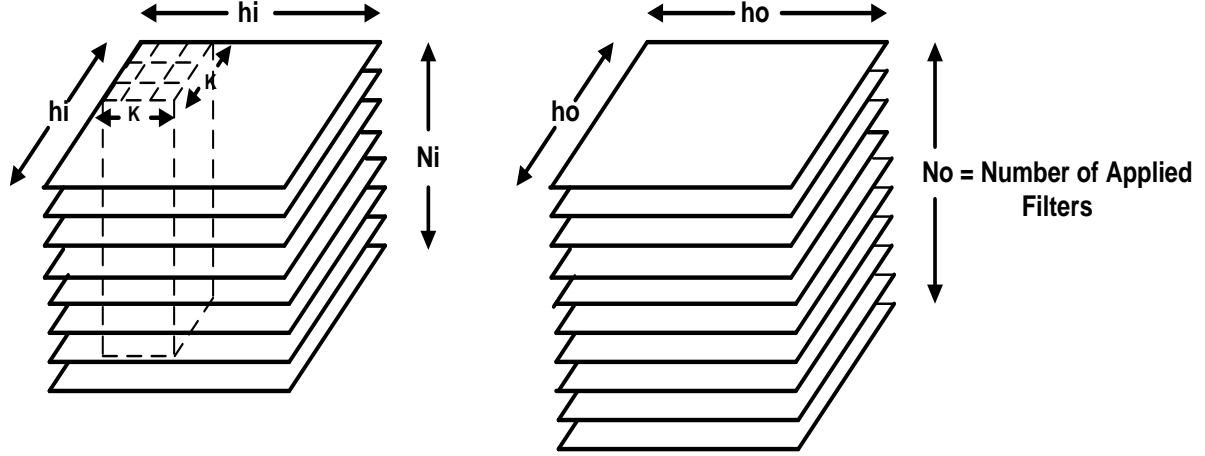

Figure 2: (Left) input features of a convolutional layer and (right) resulting output features after applying convolution
3. The convolution filter is applied as a 3-D kernel on multiple input features as shown in figure 2. The final result will be the average of all summed outputs of all input features used in convolution.
To understand the number of computations required for one convolutional layer, Let us imagine a number of input features (N_i) with height and width dimensions (h_i) as shown in figure 2 and using a filter with size ($K \times K$).